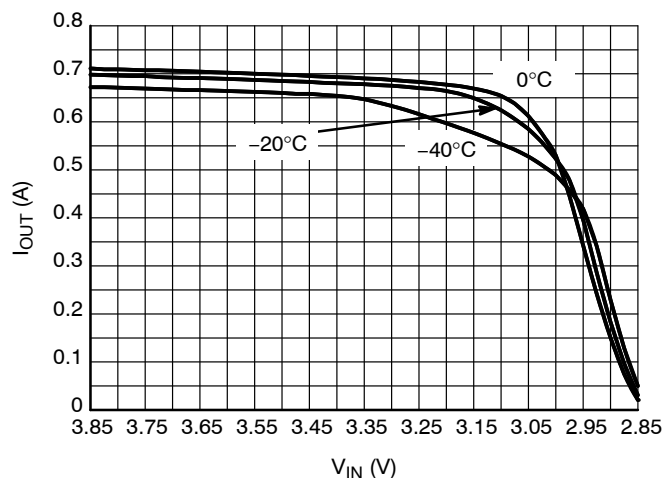

Figure 18. Output Current Capability for the 2.85 V Version
26. For output current capability for $T_A < 0^{\circ}\text{C}$, please refer to Figures 18 to 22.